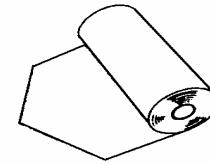

Figure 2-4
2. Cut the paper end like figure 2-4 below.